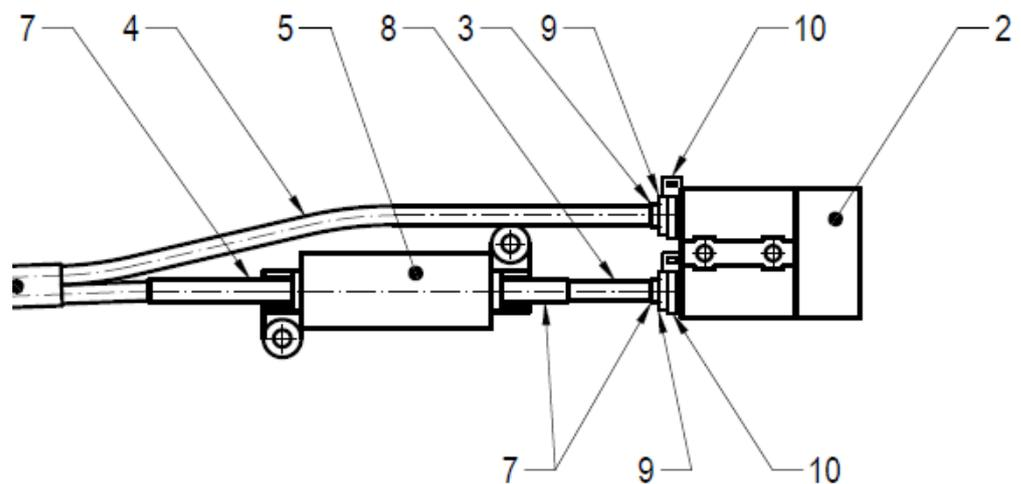

Fig. 4 – Assembly of starter battery connector:
Check if inserts (see Fig. 4 pos. 9) are present. If not, proceed with modification of the connector terminal through the inserts to limit the cable movement and assuring proper terminal position.